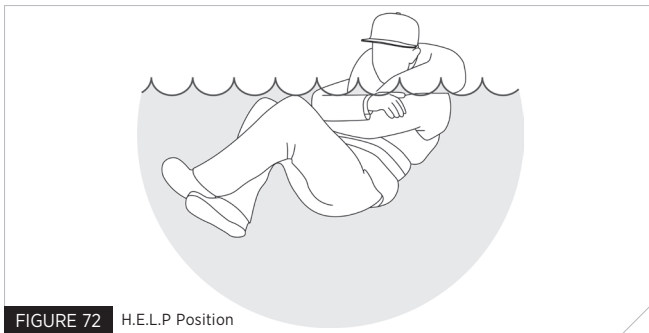

FIGURE 72 H.E.L.P. Position
3. Use the standard H.E.L.P. position when wearing a PFD, drawing the legs up to a seated position, because doing so will help you conserve body heat (Fig. 72).